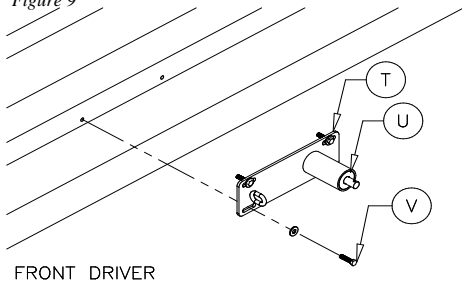

Figure 11
Using a 3/8" drill bit, drill through the center of the slots in the bracket (T) and through the box wall. Fasten the pivot arm bracket to the box with the 3/8"x1-1/2" hex bolt (V), 3/8" flat washers, and 3/8" nylon lock nuts provided (see Figure 11).